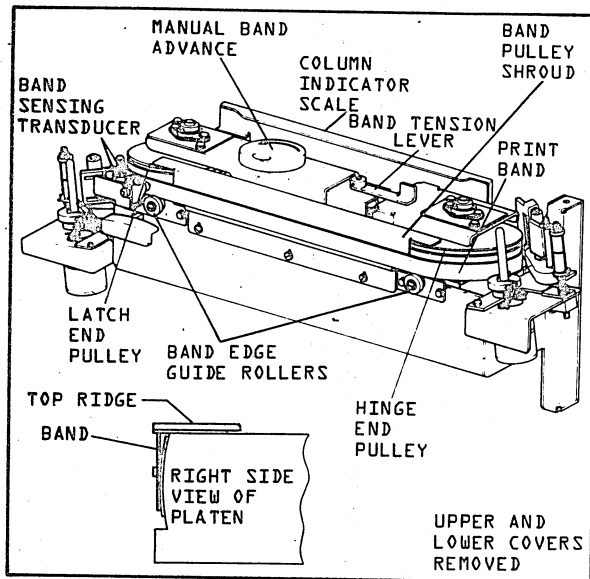

FIGURE 0-8. BAND INSTALLATION
3. Rotate the band tension lever clockwise until it contacts the stop. Remove the old band if one is already installed. Refer to Figures 0-8 and 0-9. Lift the band up off both pulleys.